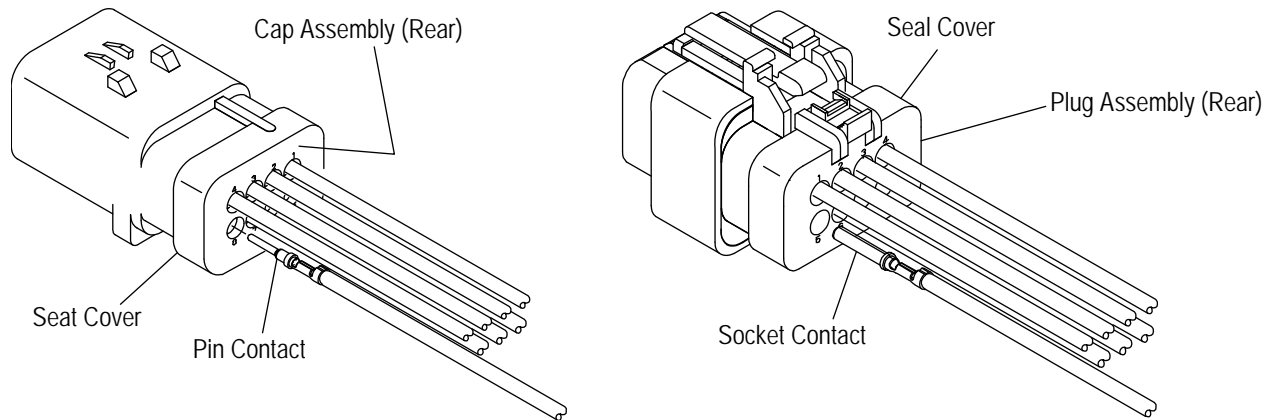
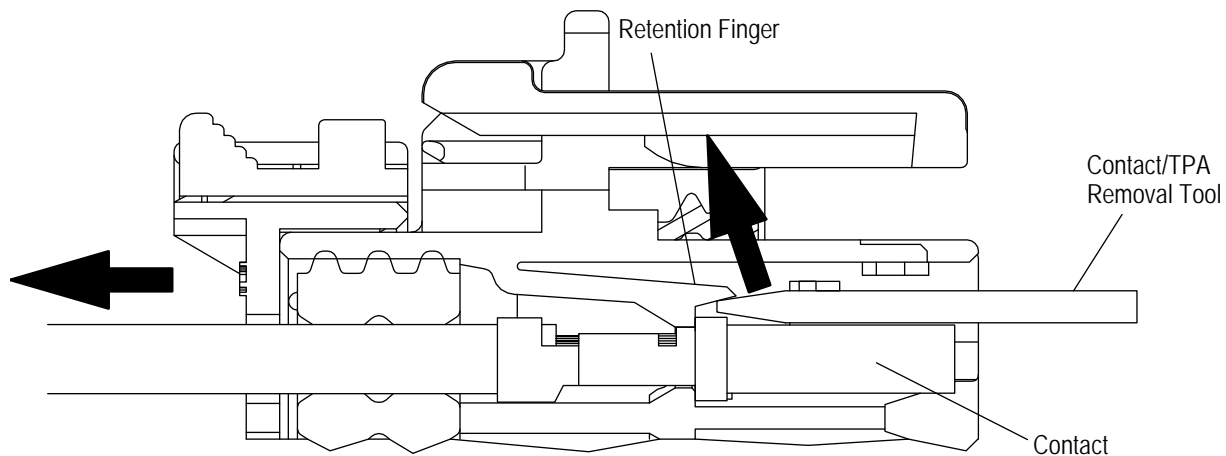

Figure 3
Figure 11
2. Align the appropriate contact with the desired circuit cavity at rear of the housing assembly. Push the contact straight into the cavity, forcing it through the wire seal. See Figure 3. Continue to push the contact straight into the cavity with the wire until the contact retention finger returns to its normal position behind the retention shoulder on the contact as indicated by an audible and tactile “click”. Refer also to Figure 11.
4. Insert the tip of the contact extraction tool into the contact cavity and deflect the contact retention finger. Gently pull the wire until the contact is free from the housing. Repeat this procedure for the remaining number of contacts to be removed as shown in Figure 11.
1. Align the keying features of the TPA with the appropriate features in the plug housing and place the TPA locking fingers inside the plug housing. See Figure 11.
1. Align the keying features of the TPA with the appropriate features in the cap housings and place the TPA locking fingers inside the cap housing. See Figure 11.